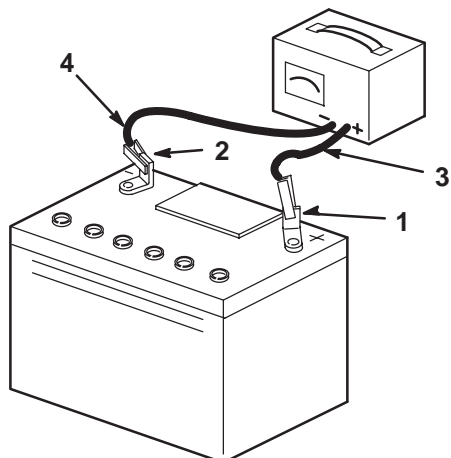

Figure 18
5. Disconnect the charger leads from the battery posts (Fig. 18).